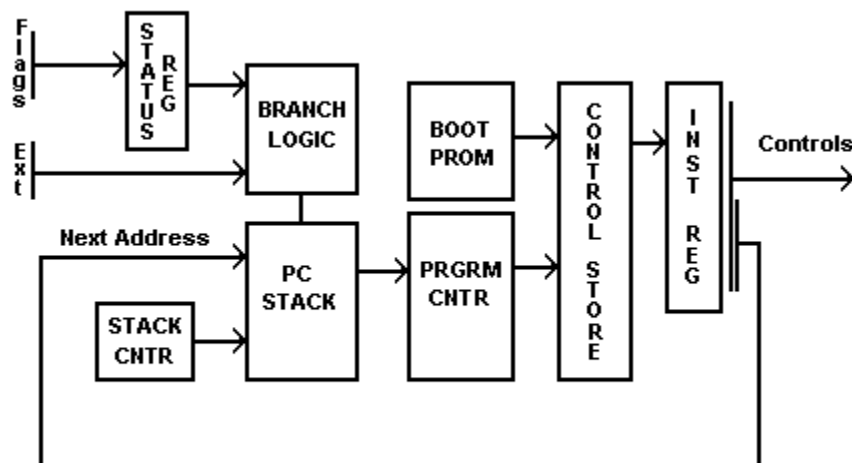

Figure 1 Example of a System Block Diagram
Program Counter (PC) Stack Module Example from Figure 1: